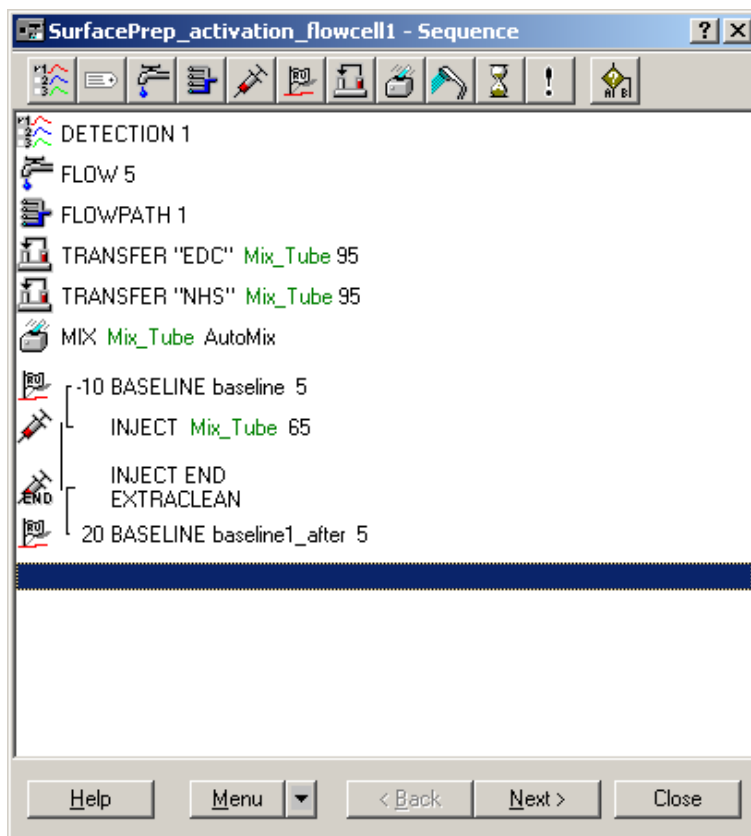

Figure 2.2 Sequence Window
- 2.5 This will open up the sequence window (Fig. 2.2)
- 2.6.4 Click OK. Sequence Window (Fig 2.2) will be displayed again.
- 2.7.4 Click OK. Sequence Window (Fig 2.2) will be displayed again
- 2.8.4 Click OK. Sequence Window (Fig 2.2) is again displayed
- 2.9.4 Click OK. Sequence Window (Fig 2.2) will be displayed.
- 2.10.4 Click OK. Sequence Window (Fig 2.2) is again displayed.
- 2.11.4 Click OK. Sequence Window (Fig 2.2) will be displayed.
- 2.12.4 Click OK. Sequence Window (Fig 2.2) is again displayed.
- 2.13.4 Click OK. Sequence Window (Fig 2.2) will be displayed
- 2.14.4 Click OK. Sequence Window (Fig 2.2) will be displayed.